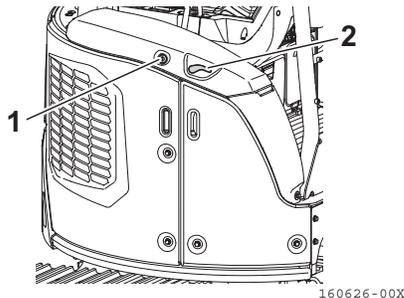

Fig. 2-66
1. Insert the starter switch key into the key hole (**Fig. 2-66, 1**) in the front cover (right) and turn it counterclockwise to unlock the front cover (right).
2. Pull the lever (**Fig. 2-66, 2**) up to unlock it, and open the front cover (right).